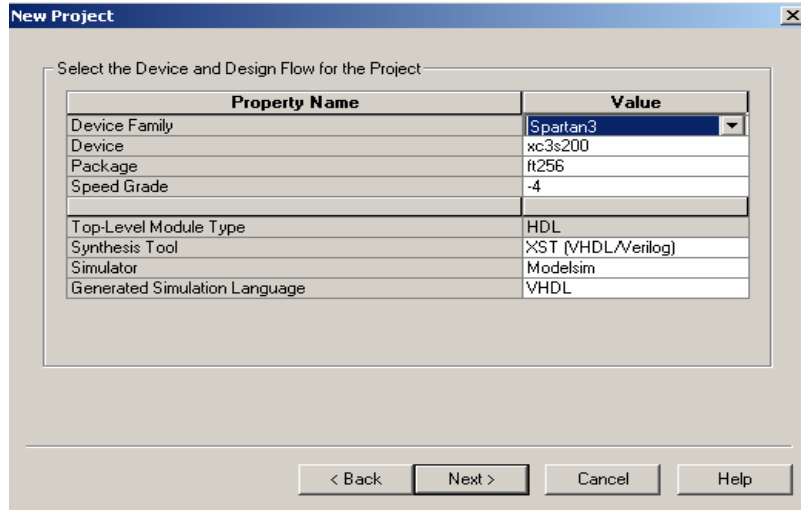

Figure 4; Creation of a project. The format for **Project Location** must be **“C:\ece238\Fall2005\student\_name\lab7”**
2. Create counter project; In the Project Navigator, select **File** → **New Project** and setup options as in figure 4. Click **OK**.